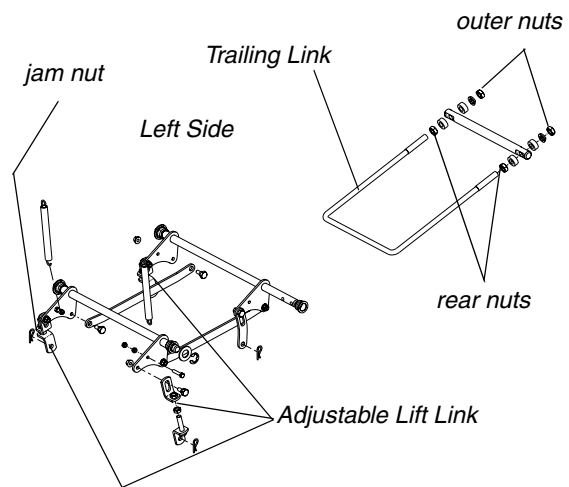

Figure 5
- c. If the dimension at the front of the mowing deck is 1/8"-1/4" (1/8" for 1-1/2" and 1/16" for 1") lower than the dimension at the rear of the deck (pitch) on each side of the mower, do not adjust. If not, you will need to adjust the Lift Links (See Figure 5).